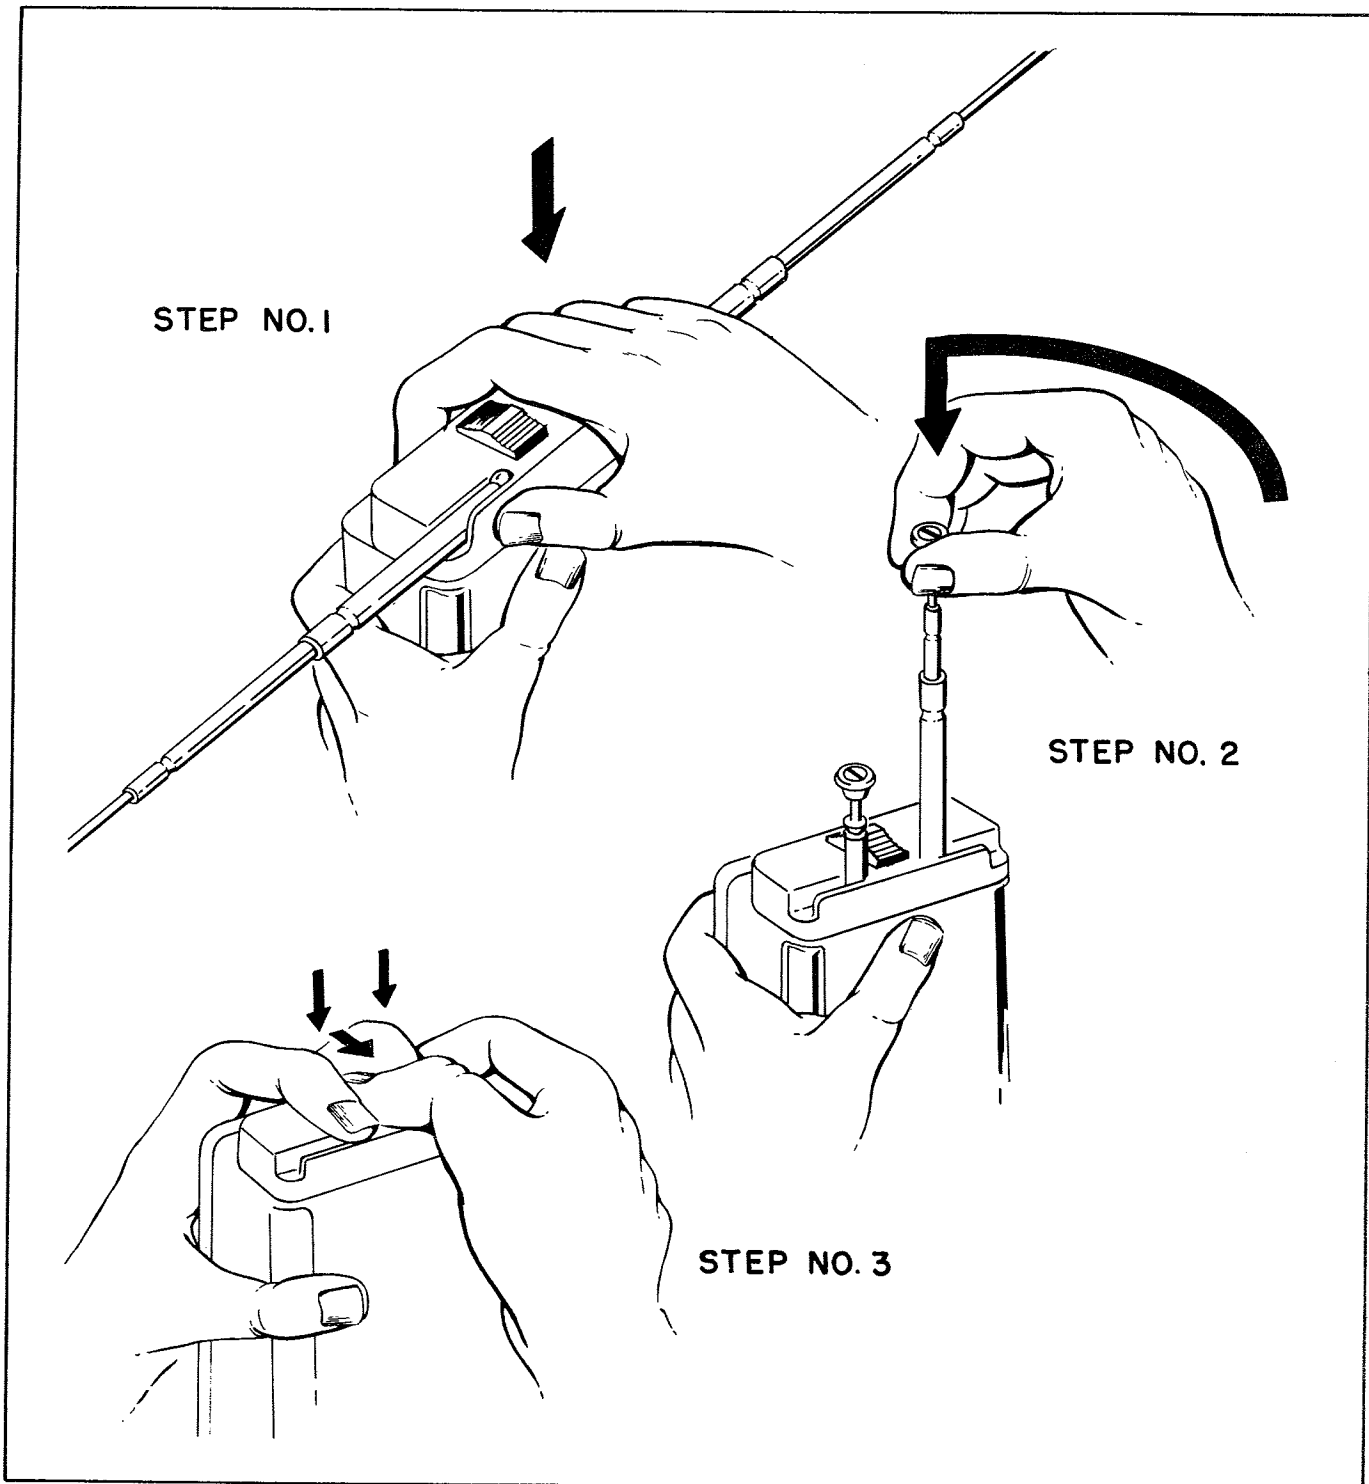

Figure 4-2. Stowing Antenna When Turning Off Equipment
b. Press the red antenna head all the way down until it reaches the case of the receiver-transmitter, as shown in figure 4-2, step No. 1.
c. Raise the horizontal antenna arms to a vertical position and compress them into the antenna case. See figure 4-2, step No. 2.